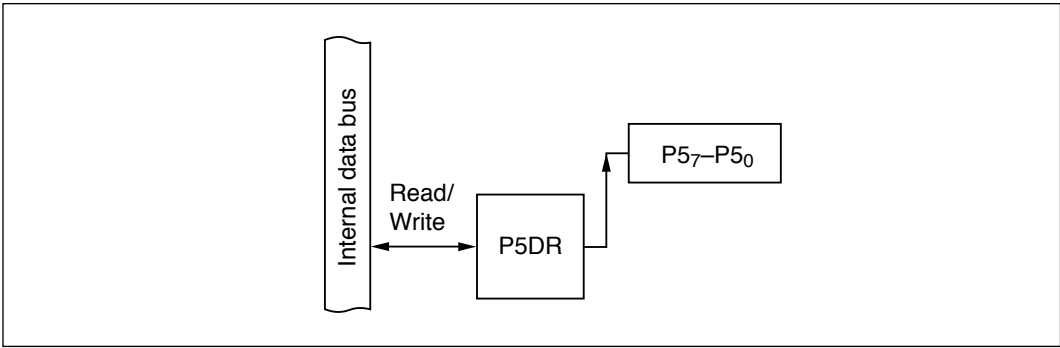

Figure 9-30 Output Port (Modes 1 to 7)
- (2) Output Port (Modes 1 to 7):** Figure 9-30 shows a block diagram illustrating the general-purpose output function. Table 9-22 indicates register read/write data. The value written in the port 5 data register (P5DR) is output at the pin. When read, P5DR returns the value written in P5DR.